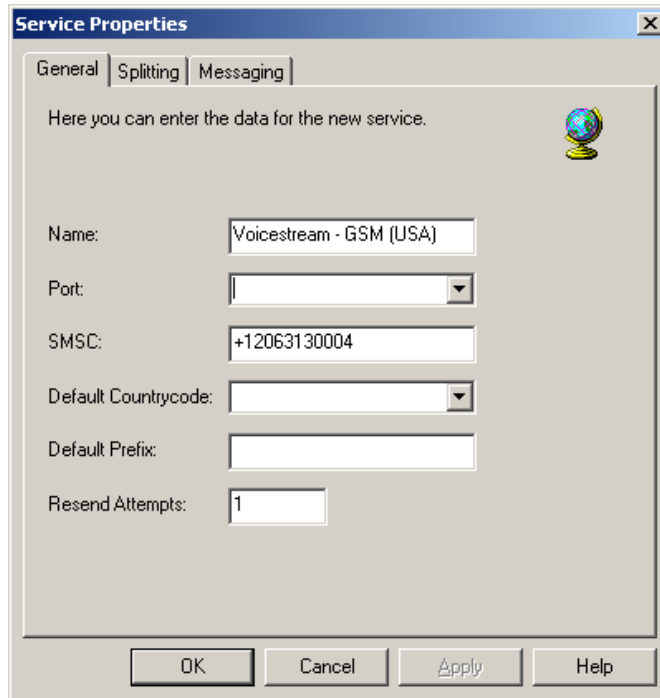

Figure 88. Service Properties Dialog - General Tab
20. If the pick list appears and the service provider appears in the pick list, select the service provider and click **Properties**. If the service provider does not appear in the pick list, click **Add**. Either method opens the **General** tab of the Service Properties dialog as shown in Figure 88. The example shown in the following figure uses Voicestream (T-Mobile) as the service provider.